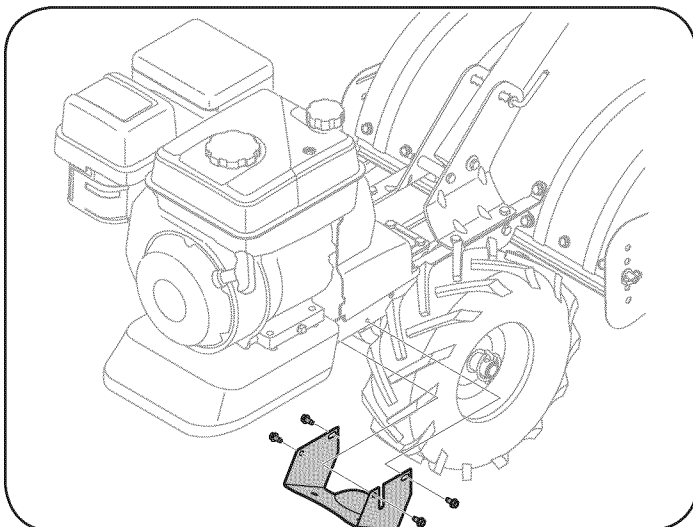

Figure 28
3. Remove the four 1/4-20 self-tapping hex screws that secure the pulley shield to the frame and remove the pulley shield and set aside in a safe location until reinstallation. See Figure 28.